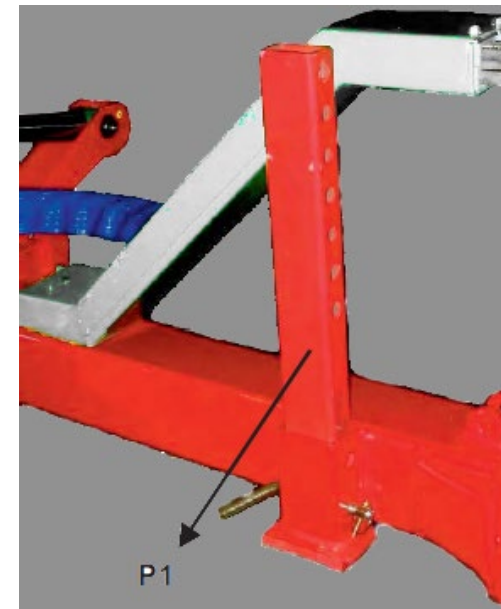

Fig. 7
- Place the pawn P in working position P1 (Fig.7).